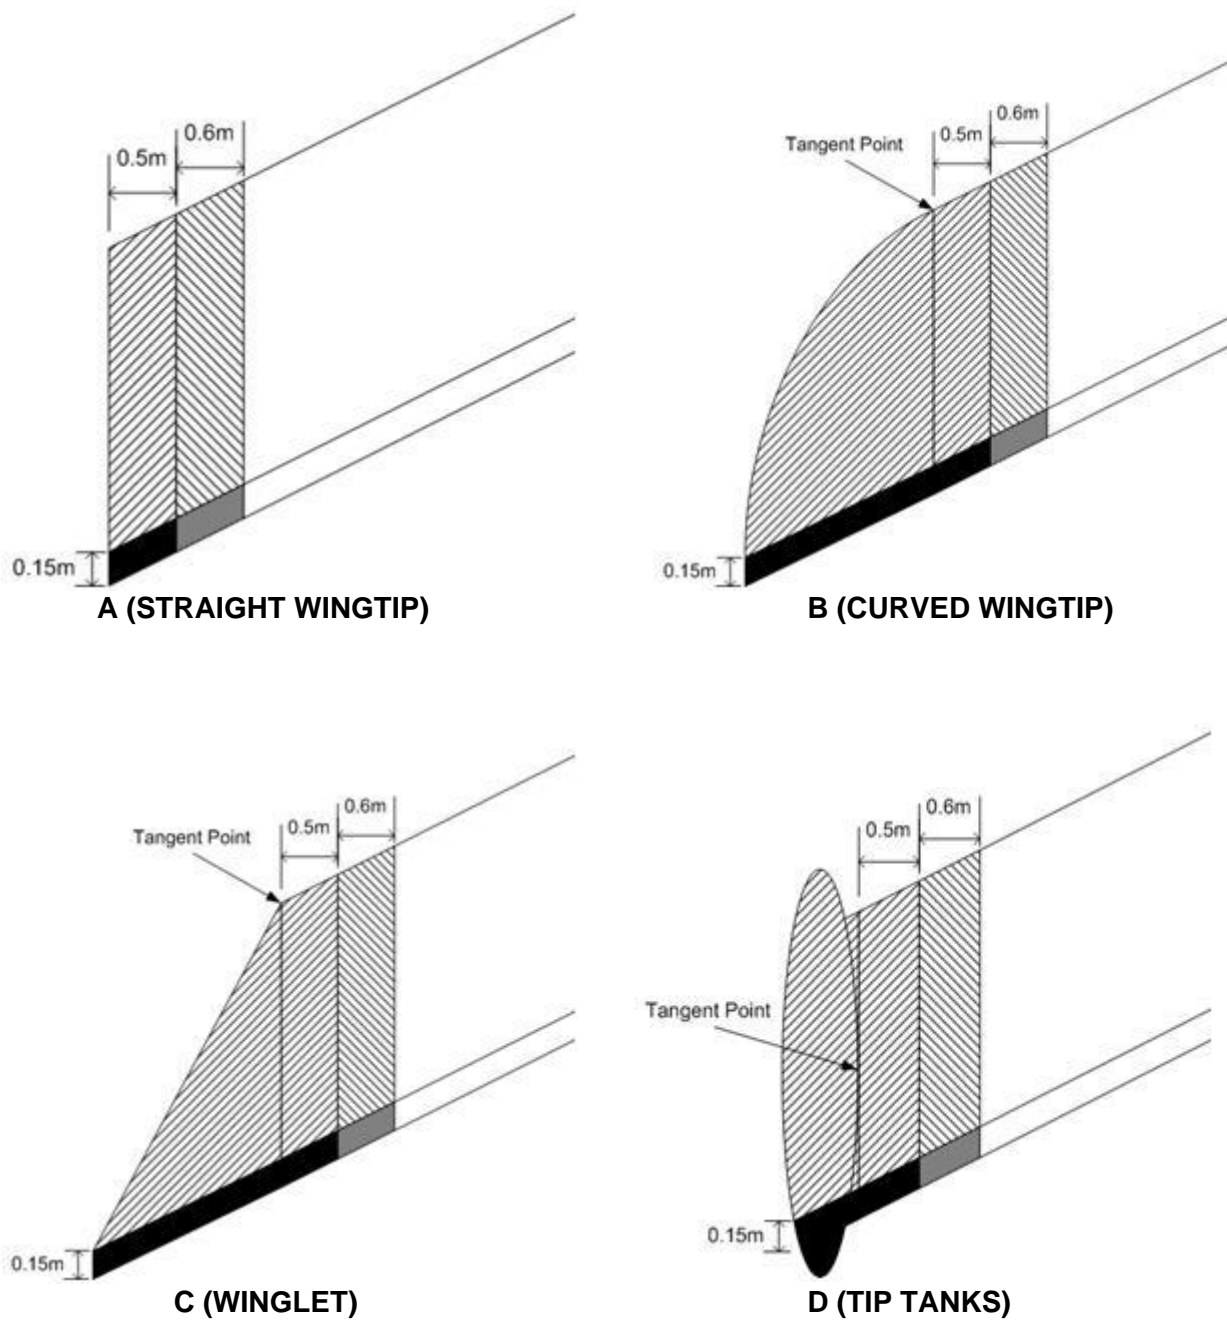

Figure 6-27 Zoning for Wingtips on Aircraft Not Limited to VFR Operation
Zoning of various types of wingtips is shown in Figure 6-27. Figure 6-27A shows zoning for straight wingtips. Figure 6-27B shows zoning for curved wingtips. The zones are similar to those of straight wingtips. The main difference is that Zone 1 extends from the outboard edge of the wing past the tangent point of the chord and 0.5 meters inboard.
- Zone 1A/1B finishes as shown in Figure 6-28 **or** 0.5 meters inboard from the inboard edge of the position light, whichever is the greater distance from the outboard edge of the wing tip, as shown in Figure 6-27